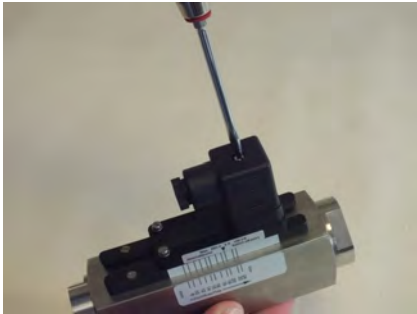

Fig. 23: Detach socket
1. ➔ Release the fixing screw (Fig. 23/1) from the socket
9. ➤ Plug the female socket onto the connector plug and tighten the fixing screw (Fig. 23/1)